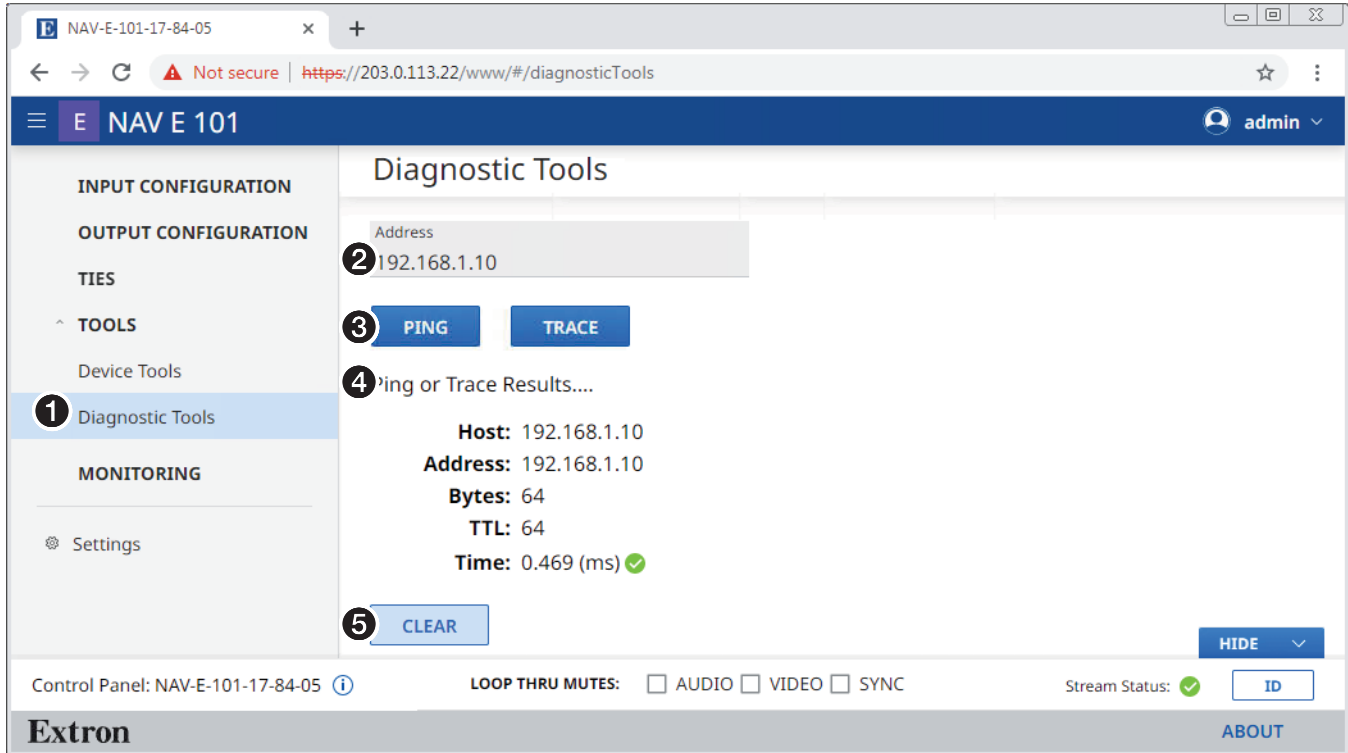

Figure 36. Diagnostic Tools Page, Ping Results Shown
The **Diagnostic Tools** page (see figure 36) provides tools that allow you to troubleshoot the connection to other units on the NAV network. Access the page as follows:
- **Ping** — Tests the connection to another unit on the network. Figure 36, ❹ shows the typical results of a Ping diagnostic. If you see the message **Ping to Host Address has Timed Out...**, contact your system administrator to troubleshoot.